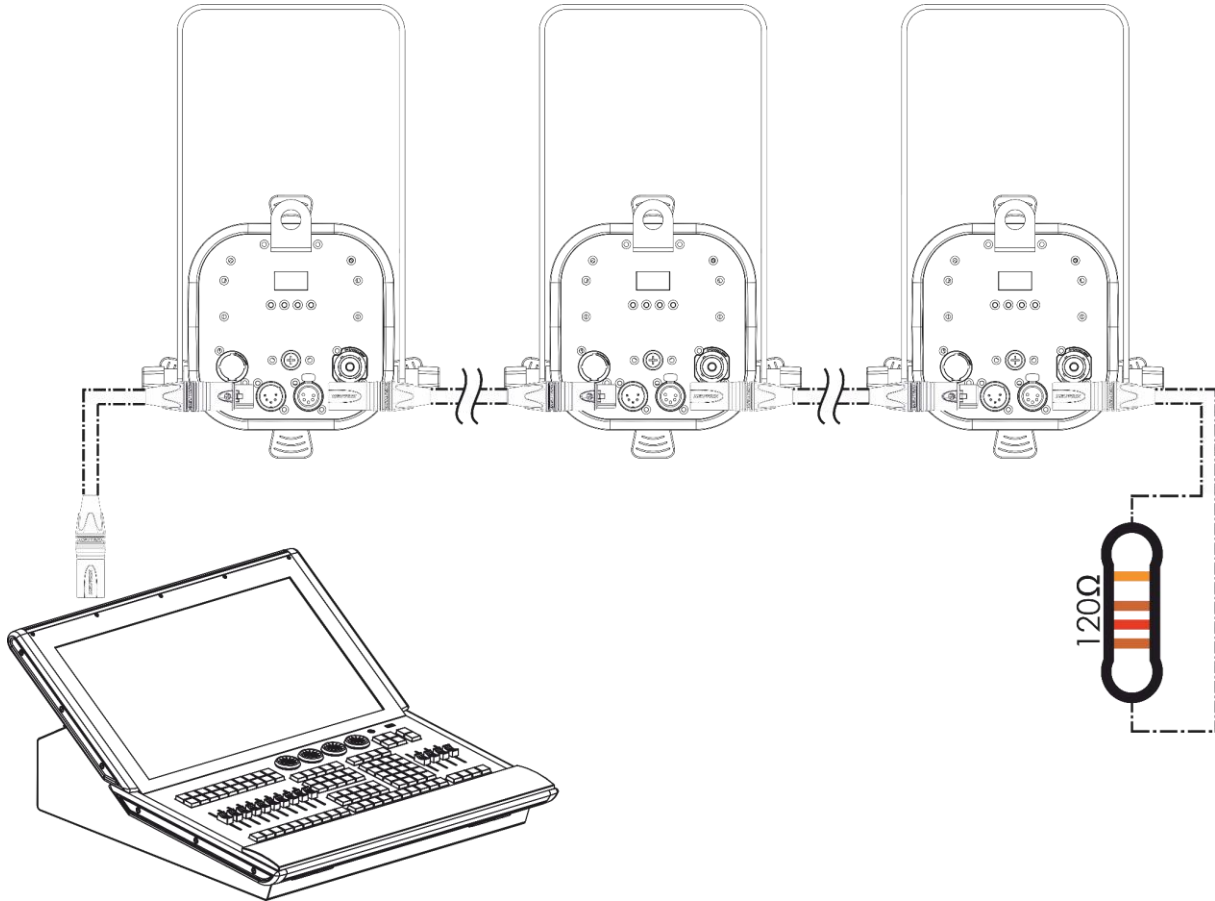

Fig. 09
- 03) Repeat step 2 to connect all devices in a daisy-chain as shown in Fig. 09.